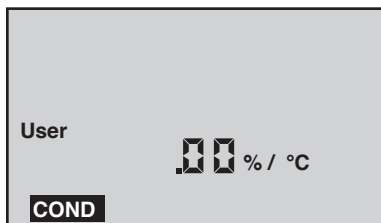

Figure 3
- b. With "USER" selected, press $\left(\frac{\text{CAL}}{\text{MCLR}}\right)$. If the display does not show .00%/°C, hold $\left(\frac{\text{MR}}{\blacktriangledown}\right)$ long enough to bring the tempco to .00%/°C (see Figure 3).